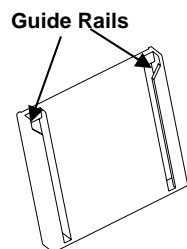

Fig. 3
- Insert the "guide edges" on the control panel into the "guide rails" mounted on the metal body. (Fig. 3)